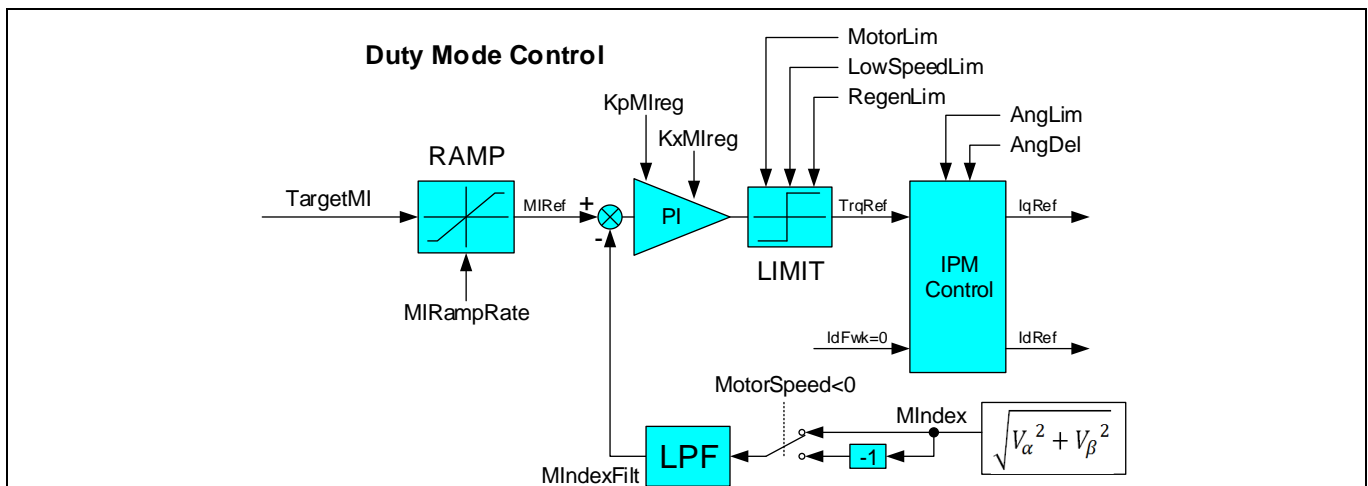

Figure 25 Top-level Diagram of Duty Mode Control Loop
The following Figure 25 depicts the structure of the duty mode control loop. In this mode, the control target of the outer loop is Modulation Index (MI), which is the inverter output voltage vector norm. MI is obtained by calculating the square root of the sum of 2-phase V_alpha square and V_beta square in stationary reference frame. The calculated MI is always positive, so that it is necessary to assign a negative sign to the calculated MI to reflect the correct rotating direction when the motor runs in reverse direction. If the motor speed is currently zero and 'MIRef' value is negative, then the motor speed is adjusted to -1 count to ensure correct MI calculation in the next update cycle. After going through necessary sign adjustment, the calculated MI is low-pass filtered digitally (represented by parameter 'MIndexFilt'). The time constant of the digital filter is 64 times of the fast loop update cycles. 'MIndexFilt' is compared against 'MIRef', and the error goes through a PI compensator to generate the desired torque reference represented by parameter 'TrqRef'. The maximum value of the desired torque reference is limited by 'MotorLim' or 'LowSpeedLim' depending on the motor speed, and the minimum value of the desired torque reference is limited by 'RegenLim'. The downstream signal processing path is the same as in the case of speed control mode shown in Figure 1.